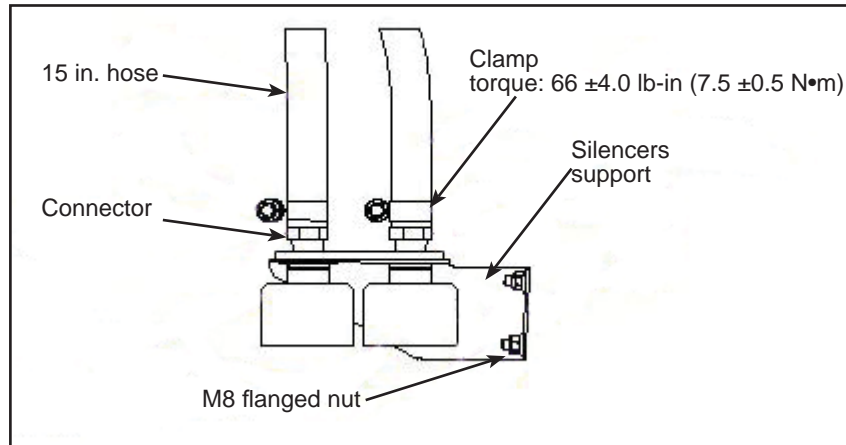

Figure 5 - Silencers Support Hardware Installation
- 1.8. Install the two connectors 2065711 on the silencers support N74517 using pipe sealant. See Figure 5.
- 1.9. Install the two 15 inches hoses N74649 on the connectors 2065711 and the two clamps N22781-03. Torque the clamps to the specified value. Use Torque Seal paint on the clamps. See Figure 5.
- 1.10. From the silencer kits N46612, install the gaskets, the exhaust covers with the screws on the silencers' support N74517. See Figures 5 and 6.
- 1.12. Install the silencers' supports assembly on the vehicle's weldstuds N17926 with two M8 flanged nuts N43233. See Figure 5.